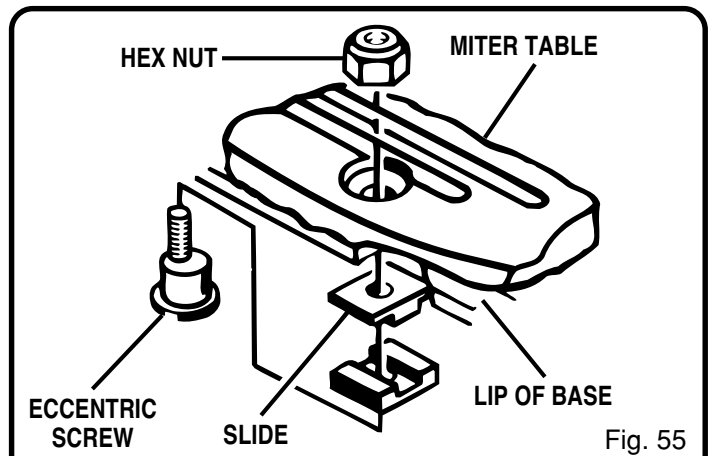

Fig. 55
- There are four slides located under the sliding miter table. These slides let the miter table move on the base. Three slides are mounted on eccentric screws that can be adjusted by loosening the hex nuts on top of the miter table. See Figure 55.
- Loosen the rear hex nuts (Q) on top of sliding miter table for this adjustment procedure.